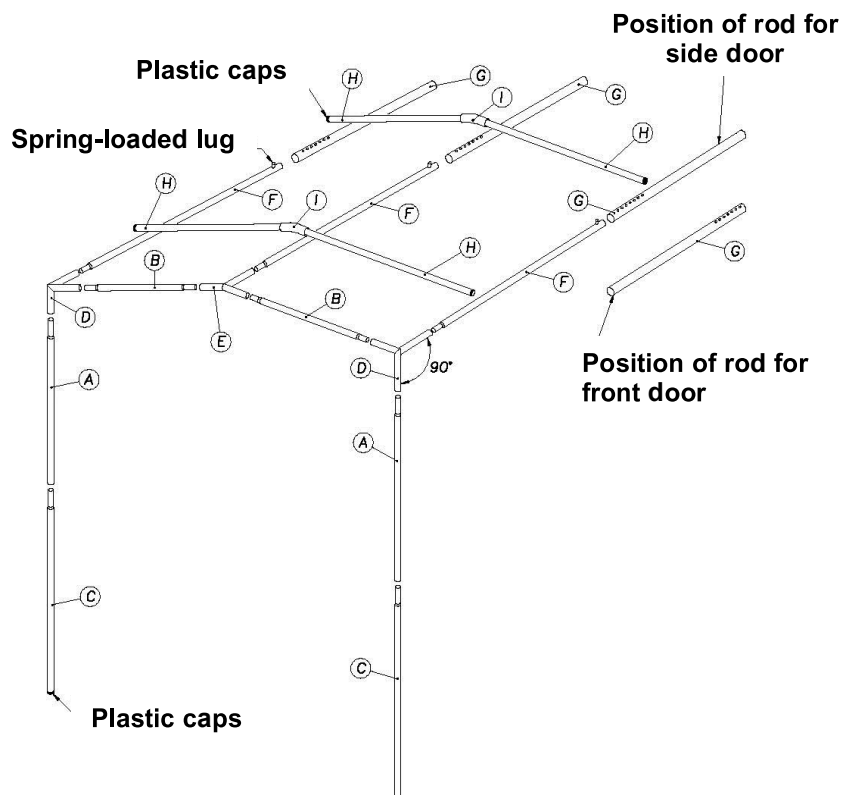

Figure 2.18 – Entrance module pole assembly diagram
- C** - Next insert the stays for the module into respective eyes in the door edge and thread the line through until you reach the bases. Then seal off the lines using the procedure shown in fig. 2.18.